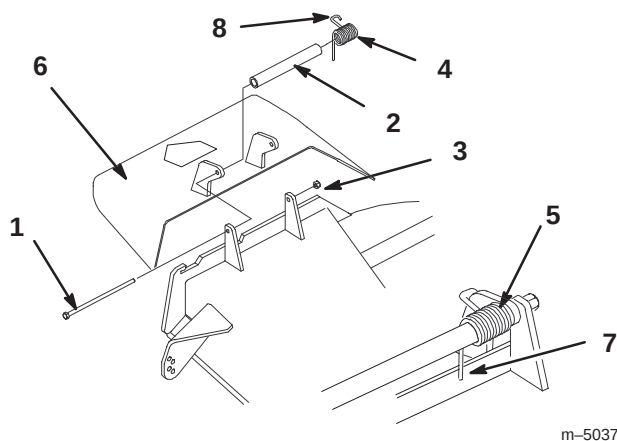

Figure 67
1. Remove the locknut, bolt, spring and spacer holding the deflector to the pivot brackets (Fig.67). Remove damaged or worn grass deflector.
Note: Make sure the straight end of spring is installed behind deck edge before installing the bolt as shown in figure 67.
3. Install bolt and nut. Place hook end of spring around grass deflector (Fig. 67).